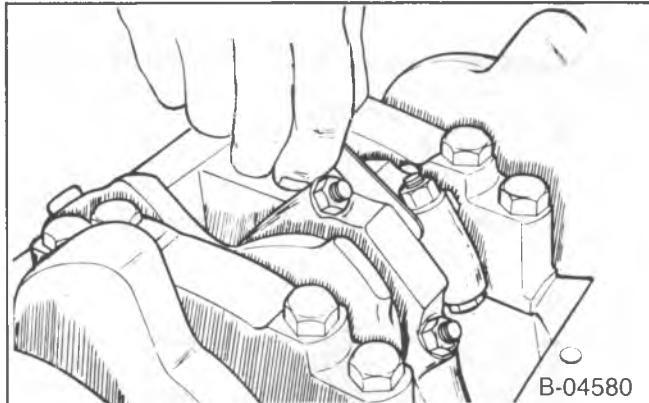

Figure 66—Measuring Connecting Rod Side Clearance
Measure (Figure 66)
- Connecting rod side clearance. Use a feeler gage between the connecting rods (figure 66). The proper clearance is as follows: